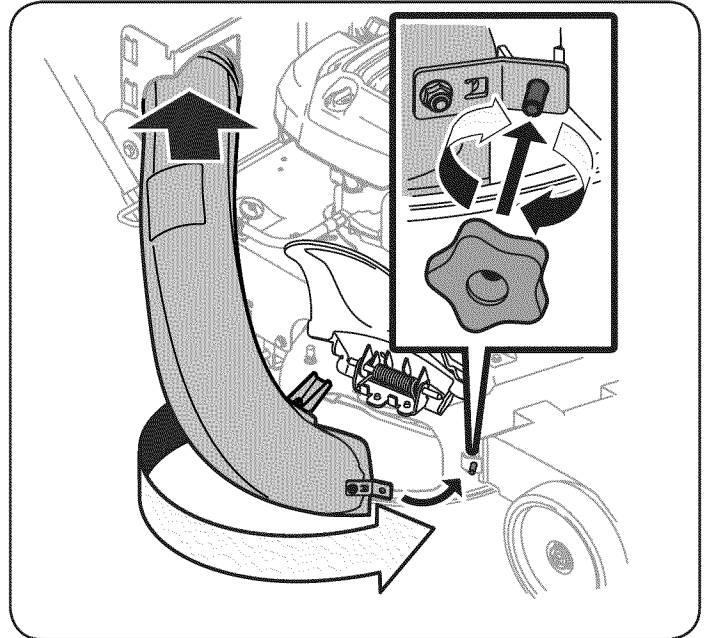

Figure 10
5. Secure the chute to the mowing deck using the wing knob included in the lawn mower manual bag. Thread the wing knob onto the deck stud. Hand tighten to secure the discharge chute. See inset in Figure 10.